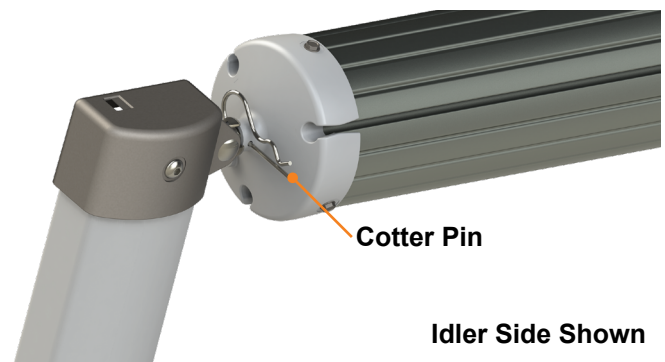

Fig.13
3. Extend the awning out completely by sliding the mount/rafter arms all the way to the top of the outer arm and make sure they lock into place and insert cotter pins (**Fig.13**).